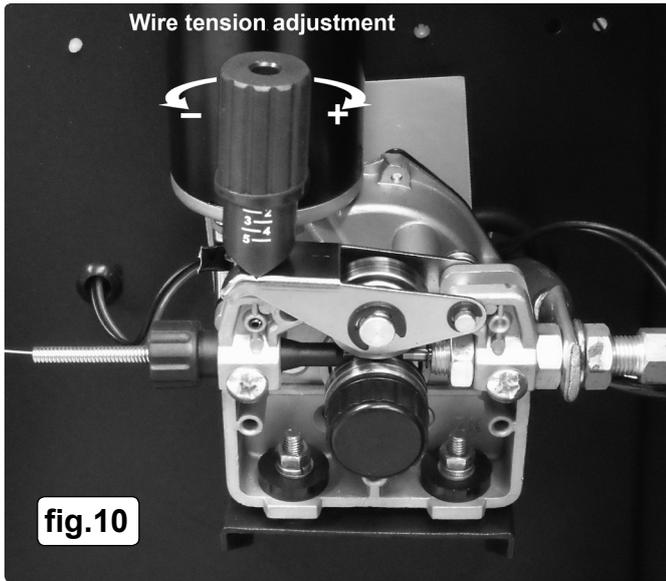
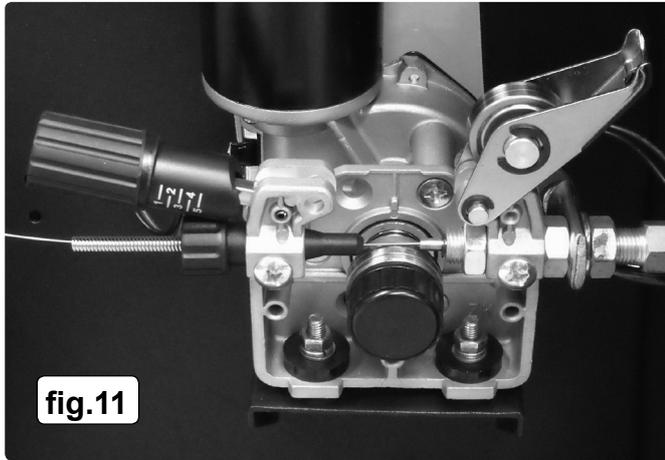

fig.10
fig.11
- 6.1 The wire feed mechanism has a lower grooved drive roller and an upper pressure roller. The pressure roller is in a separate hinged housing which is held in place and acted upon by a pressure adjustment knob as shown in fig.10 above. To access the drive mechanism pull the pressure adjustment knob over to the left and allow it to hinge downwards. As you do so the pressure roller housing will spring open to the right as shown in fig.11 below.
- 6.2.1 Close and hold down the pressure roller housing then hinge the pressure knob upwards and onto the housing until it snaps into position. Set an intermediate pressure between marks 2 and 3. Turning the knob clockwise increases the pressure. Turning the knob anti-clockwise decreases the pressure. (See fig.10).
- 6.4.1 Tension between rollers is checked by slowing down the wire between your fingers. If the top feed rollers skid the tension is correct. Use as low a tension as possible, too high a tension will deform wire and result in a blown fuse on the printed circuit board. Adjust tension by turning the pressure knob as shown in fig.10.